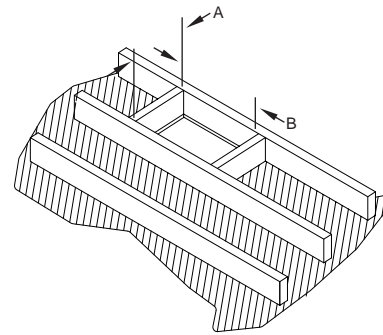

FIG. 1
2. Using framing lumber equal to ceiling joist size, frame ceiling opening as shown in **FIG. 1** and **TABLE 1**.
5. Proceed to the next ceiling. **If Metal-Fab Elbows are to be used because the chimney is to be offset, refer to "Installation of Elbows" section.** Directly above the Center of the flue in the ceiling support, mark the ceiling. A plumb bob is normally used to find the center. Cut an opening in the ceiling using **FIG. 1** and **Table 1**.